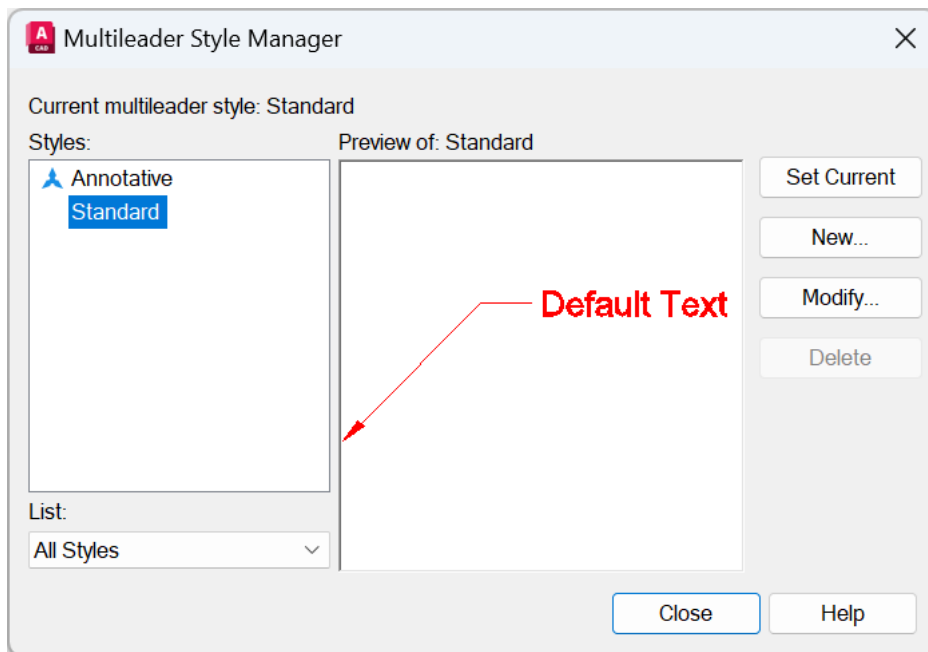

Figure 7.24: Multileader Style Manager
2. Using either method, the **Multileader Style Manager** dialog box appears, with two default multileader styles: **Annotative** and **Standard**, as shown in *Figure 7.24*.